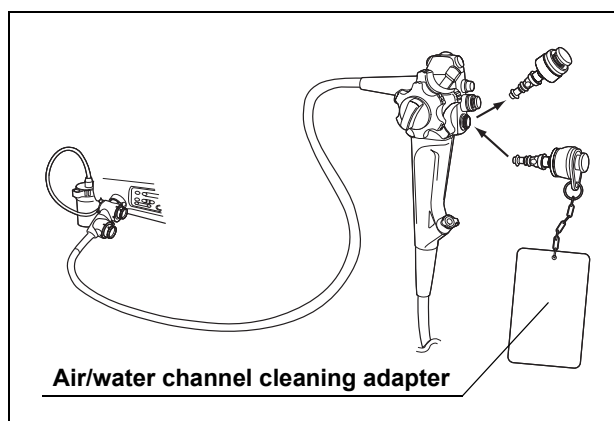

Figure 7.20
5. Remove the air/water valve from the endoscope and place it in a container of detergent solution (see Figure 7.20).
6. Attach the air/water channel cleaning adapter to the air/water cylinder of the endoscope (see Figure 7.20).